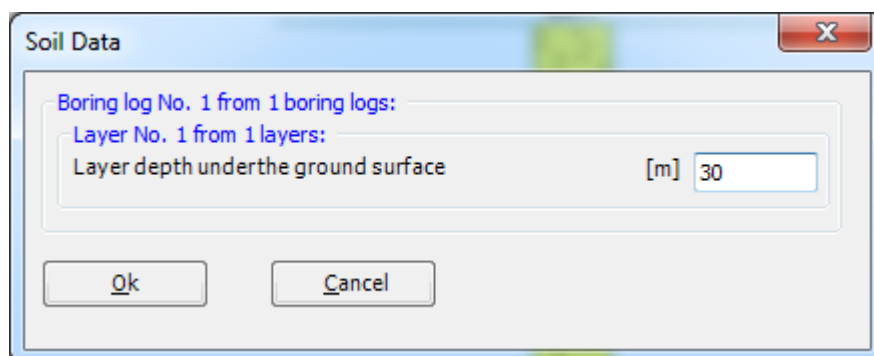

Figure 11.24 "Layer depth under the ground surface" edit box
- Double-click on the layer depth. The corresponding edit box appears allowing you to modify the layer depth under the ground surface, Figure 11.24